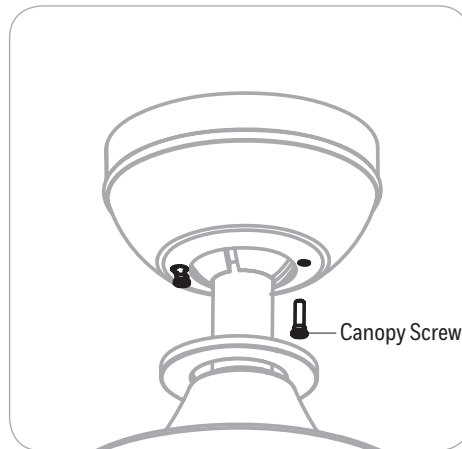

Figure 5.2
2. Remove one of the canopy screws from the bottom of the mounting bracket. Lift the key slot in the canopy over the head of the canopy screw preassembled to the mounting bracket. Twist the canopy clockwise to lock. Replace the canopy screw in the round hole in the bottom of the canopy and tighten (Figure 5.2).